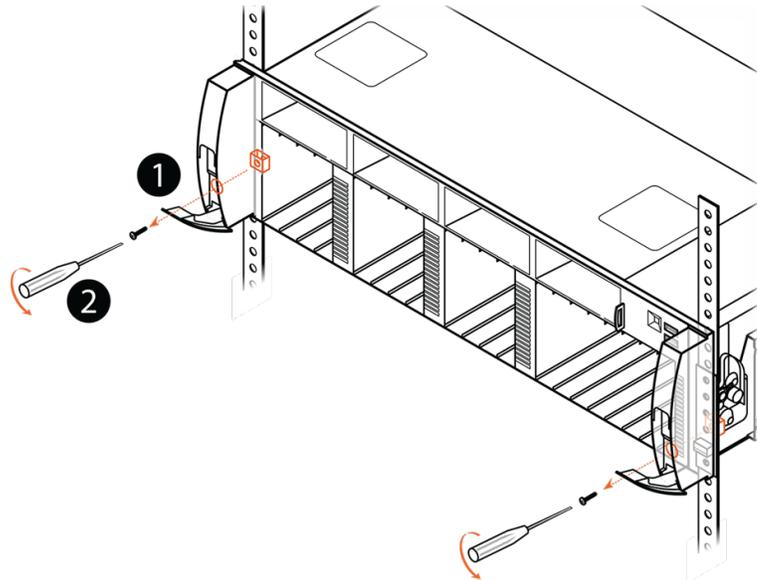

Figure 11-9. Removing Front Screws
1. Open the slam latches on the front panel. See Figure 11-9.